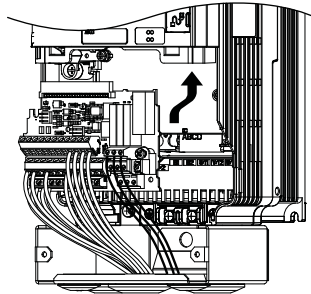

Figure 6.24 Installing the Terminal Board
1. After wiring the main circuit, connect the terminal block to the regenerative unit as shown in Figure 6.24. Use the installation screw to fasten the terminal block into place.